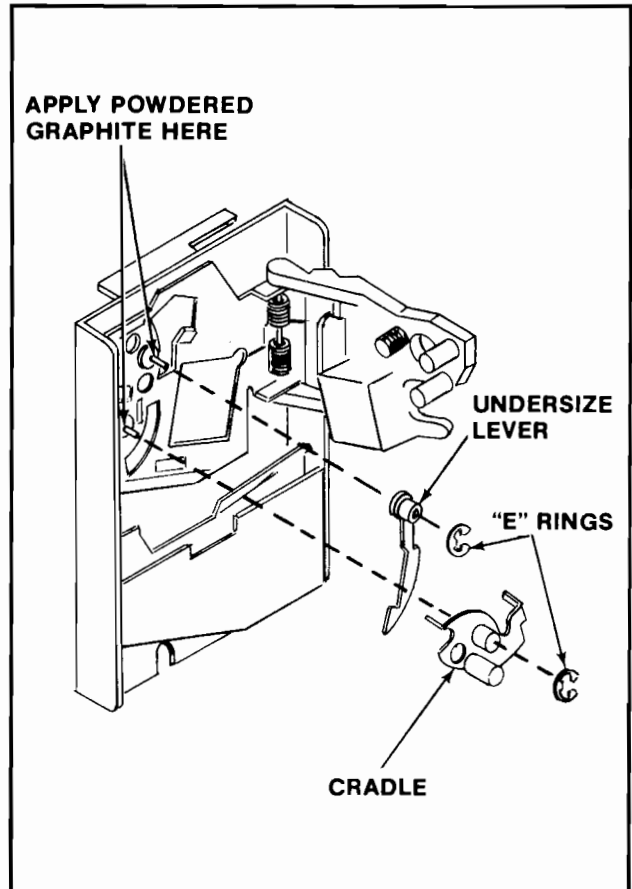

**Figure 4-2 Cleaning the Metal Coin Acceptor**
4. Clean the magnet of all foreign particles. See Figure 4-2.